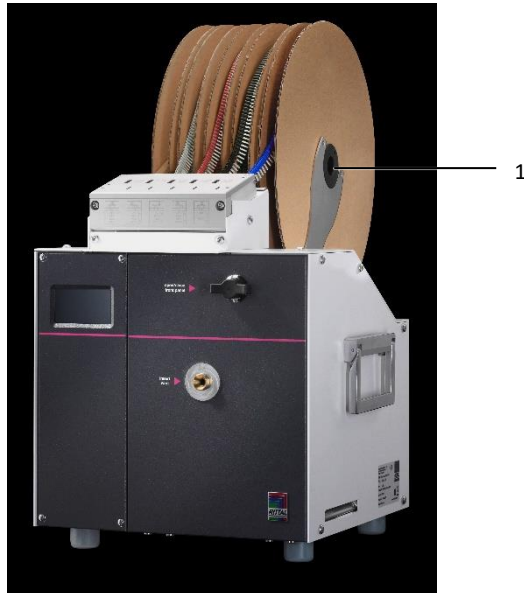

Fig. 8: Wire end ferrule reel position
- Place the wire end ferrule reels (fig. 8, item 1) so that unrolling forwards from below is possible.